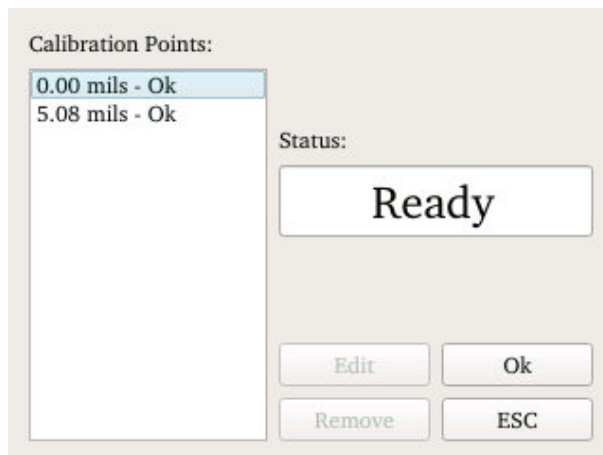

Figure 15: Calibration Points
- When all calibration points are realized, press the button “Ok” to start the saving process of the calibration, see Figure 15.